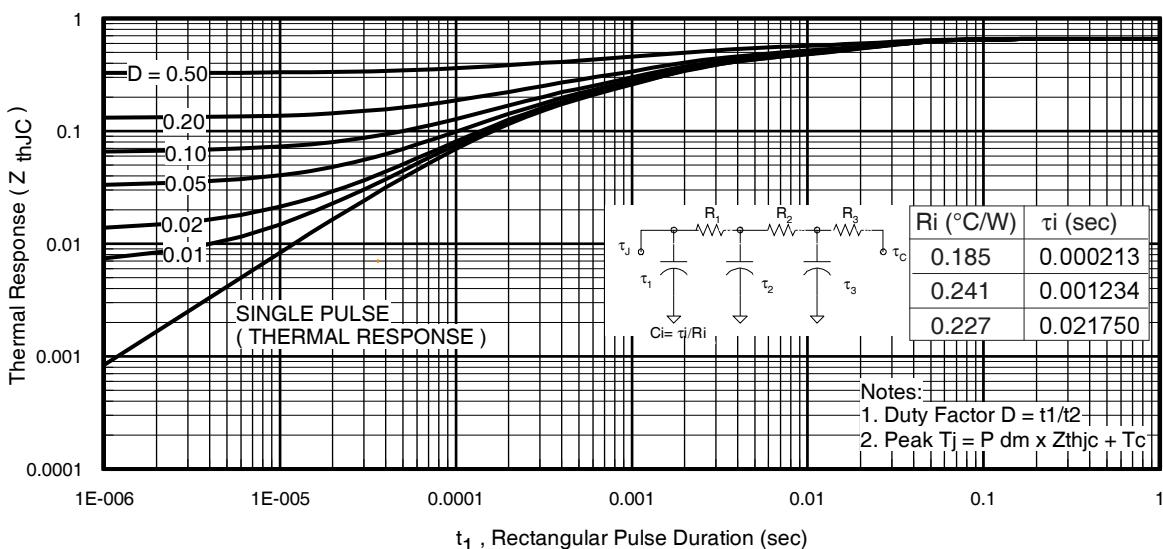
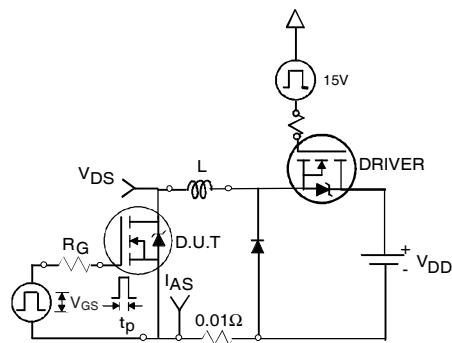

Fig 11. Maximum Effective Transient Thermal Impedance, Junction-to-Case
Fig 12a. Unclamped Inductive Test Circuit
- ① Repetitive rating; pulse width limited by max. junction temperature. (See fig. 11).
- ② Limited by T_{Jmax} , starting $T_J = 25^\circ\text{C}$, $L = 0.079\text{mH}, R_G = 25\Omega, I_{AS} = 75\text{A}, V_{GS} = 10\text{V}$. Part not recommended for use above this value.
- ③ Pulse width $\leq 1.0\text{ms}$; duty cycle $\leq 2\%$.
- ④ $C_{oss\ eff.}$ is a fixed capacitance that gives the same charging time as C_{oss} while V_{DS} is rising from 0 to 80% V_{DSS} .
- ⑤ Limited by T_{Jmax} , see Fig.12a, 12b, 15, 16 for typical repetitive avalanche performance.
- ⑥ This value determined from sample failure population. 100% tested to this value in production.
- ⑦ This is only applied to TO-220AB package.
- ⑧ When mounted on 1" square PCB (FR-4 or G-10 Material). For recommended footprint and soldering techniques refer to application note #AN-994.
- ⑨ Calculated continuous current based on maximum allowable junction temperature. Bond wire current limit is 120A. Note that current limitations arising from heating of the device leads may occur with some lead mounting arrangements.
- ⑩ All AC and DC test condition based on former Package limited current of 75A.
3. Equation below based on circuit and waveforms shown in Figures 12a, 12b.
- $Z_{thJC}(D, t_{av})$ = Transient thermal resistance, see figure 11